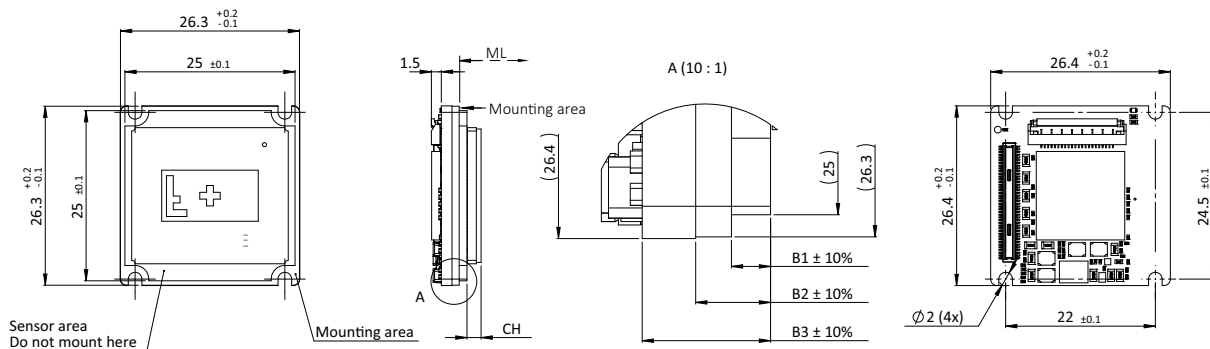

Figure 62: Bare Board (standard Alvium) dimensions
Dimensions that are common between different models are shown in Figure 62, model specific dimensions are listed in Table 87. **Mechanical length (ML)** defines the mechanical distance from the mounting area to the lens mount front flange, without optical filter. **Components height (CH)** relates to the electronic components with maximum height, sometimes the sensor.